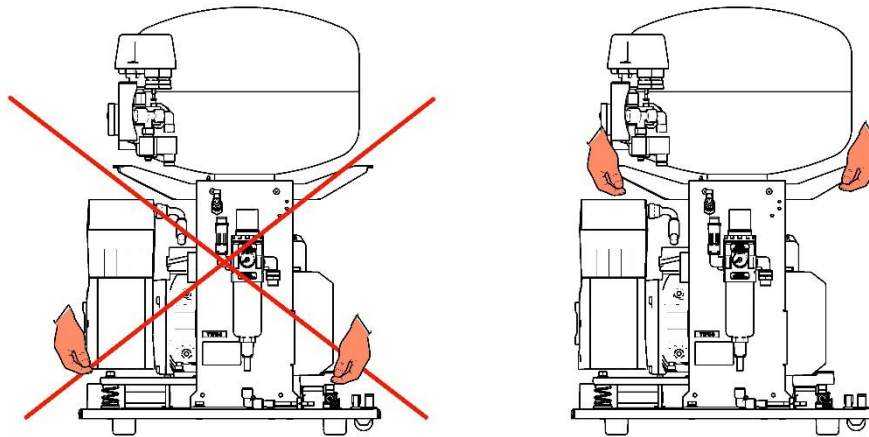

Fig. 5
- Position the compressor at the site of future operation (Fig. 5)